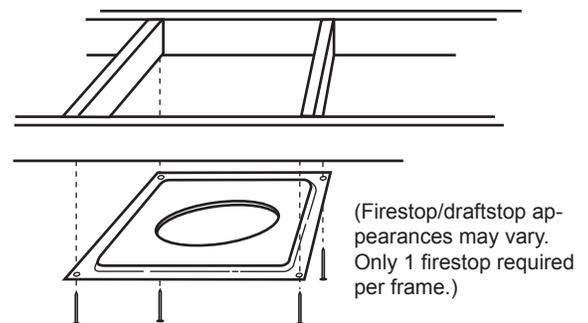

Fig. 9 Firestop/draftstop positions.
For firestop positioning, refer to Figure 9. Only one (1) firestop required per frame. **NOTE:** A firestop is not required at the roof.